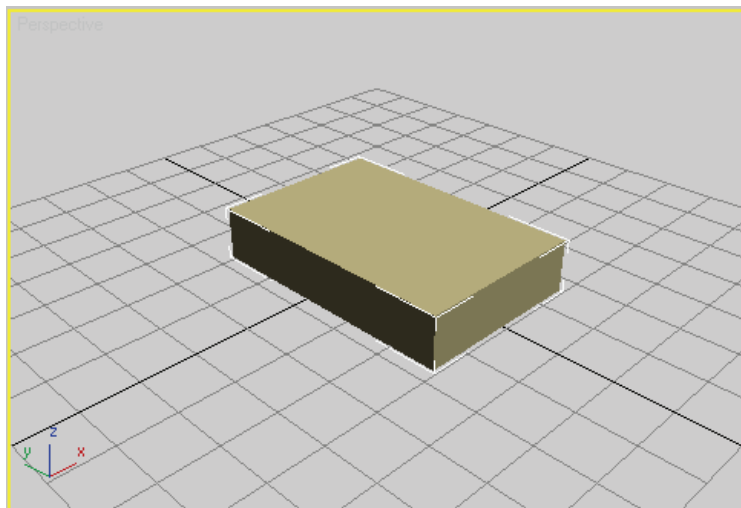

Figure 3–49
5. Initially you can use the Parameters rollout in the *Create* tab to edit the values. You can also use the *Modify* tab to edit the values. Set the *Length* to **0'50"** (4'2"), *Width* to **0'33"** (2'9"), and *Height* to **0'10"**. The box should look similar to the one in Figure 3–49.